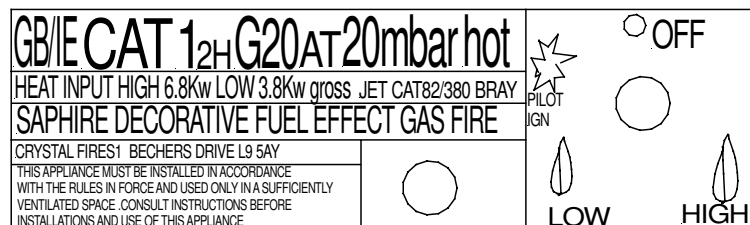

FIG 1
1. TURN KNOB A (FIGURE 1) SLIGHTLY LEFT TOWARDS THE IGNITION POSITION(SHOWN IN FIG 1 ABOVE) UNTIL REACHING STOP,PRESS DOWN AND HOLD FOR FIVE SECONDS (ONLY PILOT GAS FLOWS)
3. UPON LIGHTING,RELEASE KNOB A AND TURN FURTHER LEFT TO ON POSITION (SHOWN IN FIGURE 1 ABOVE)PILOT GAS FLOWS AND MAIN BURNER FLOWS IN ACCORDANCE TO THE FLAME SETTING(KNOB B AS SHOWN IN FIG 1 ABOVE)